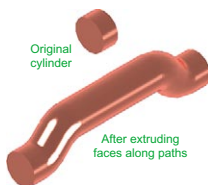

Fig. 18.3 First example – **Extrude faces tool**
First example – Extrude faces tool (Fig. 18.3)
2. In a **ViewCube/Right** view, construct a cylinder of radius **30** and height **30** (Fig. 18.3).
8. Add lights and a material and render the 3D model (Fig. 18.3).